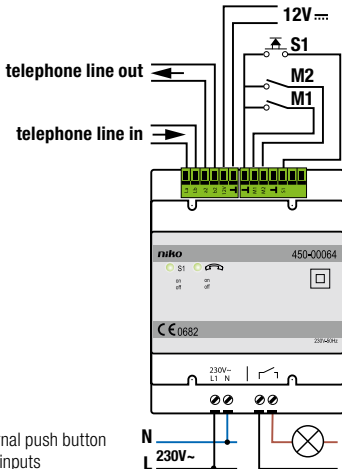

fig.1
The interface can be built into a DIN rail cabinet (4U). The switch functions can be carried out via a call, an external push button or via a flush mounted push button (see fig. 1). The telephone interface is protected by a 4-digit code. The settings and switch statuses of the outputs are saved during a power failure and are retrieved once the power is restored. If you wish the interface to remain active during a power failure, you can permanently connect it to a backup power supply of 12VDC.
1. Connect the incoming telephone line with screw terminals La and Lb (tip and ring) of the interface. You can connect the telephone line to the internal units to terminals a2 and b2 (see fig.1). You can also connect the telephone interface to a telephone network with telephone exchange. Remove the upper connector to connect the wires.
2. Connect terminals L1 and N to the mains 230V (see fig. 1). terminal capacity max. 1 x 1.5mm².
3. Carry out the cabling as shown in fig. 1.